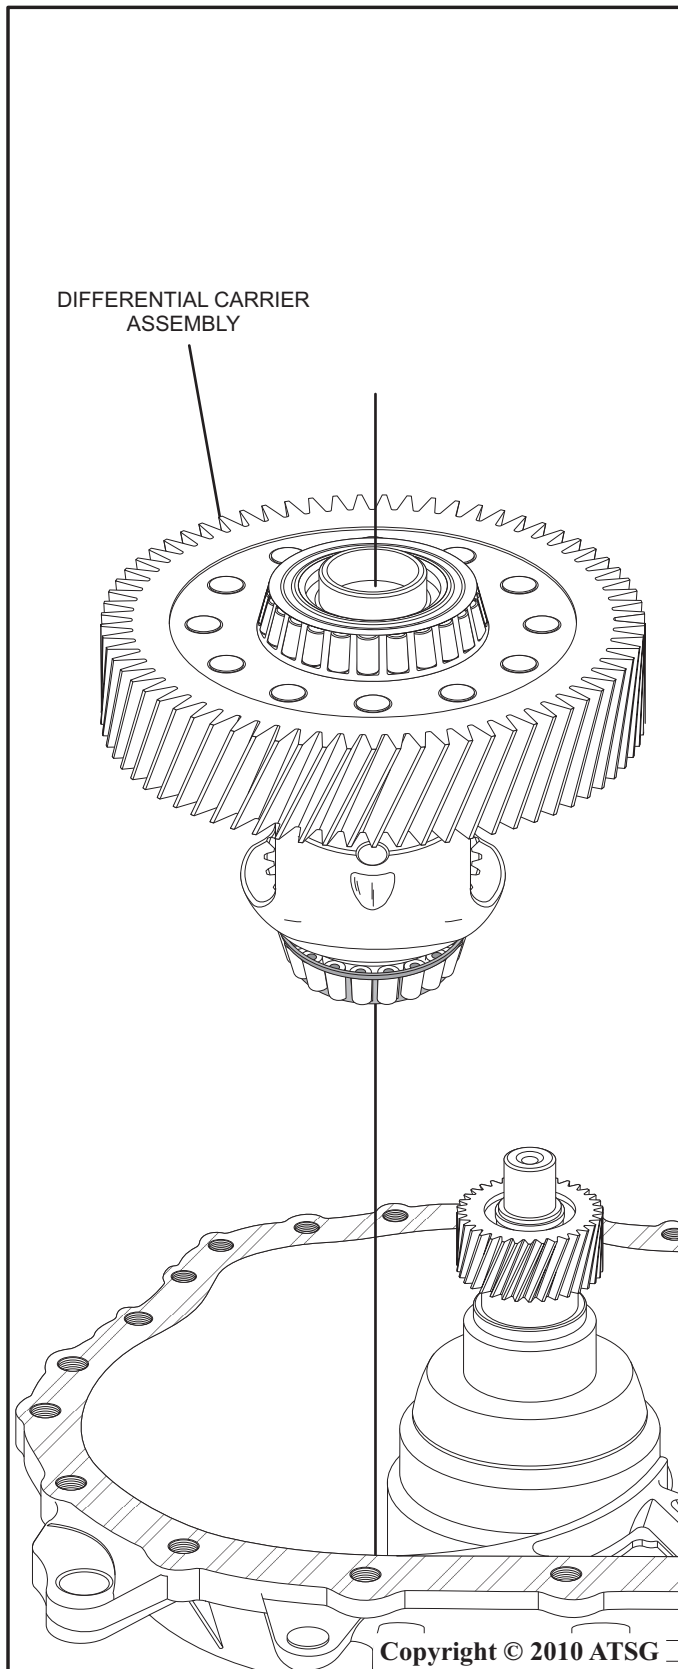

Figure 22
55. Install the differential carrier assembly into the transaxle case as shown in figure 22.